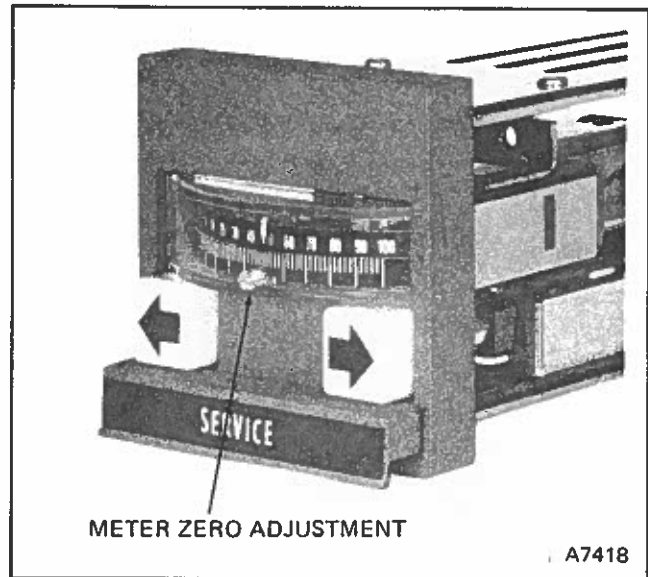

FIGURE 34 — Meter Zero Adjustment (TJ20 shown)
2. Adjust meter zero adjustment until meter pointer is at mid-scale (Figure 34).